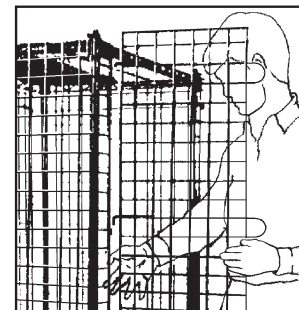

figure 9
Hang (8) left door panel and (9) right door panel as shown in *figure 9*. Your Security Unit is now ready for use.